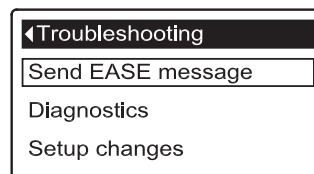
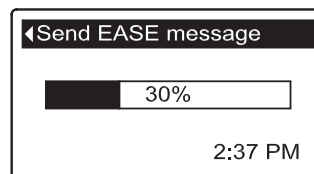

FIG. 147
FIG. 148
5. Press the SELECT (O) button to display the Troubleshooting menu (See Figure 147).
9. A bar is displayed showing the transmission's progress (See Figure 148). Once completed, the Troubleshooting screen immediately reappears (Figure 147).